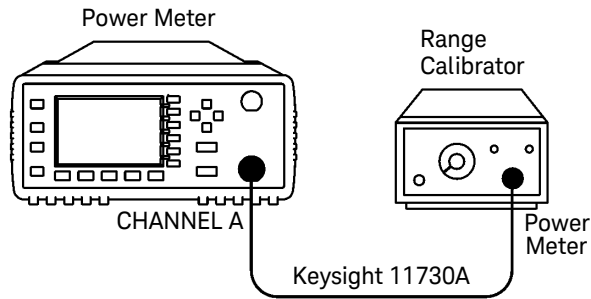

Figure 2-1 Zero Test Setup
- 1 Connect the equipment as shown in Figure 2-1.